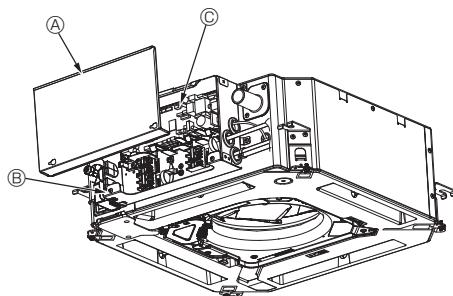

Fig. 5-7
1. Loosen the two screws securing the electric component cover, and then slide and remove the cover. (Fig. 5-7)